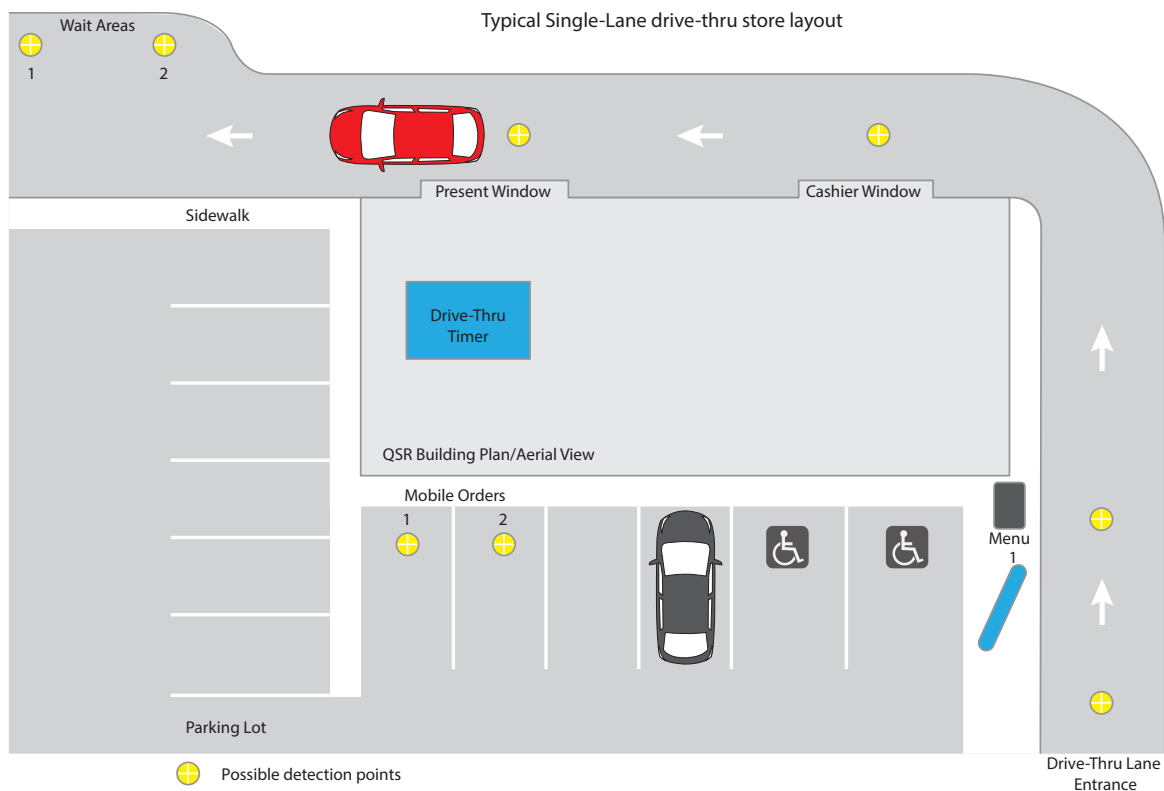

Fig. 1.4
- Mobile Order/Wait Areas: vehicle detection is off to the side of a lane, or in a reserved parking spot designated by the restaurant/store. Fig. 1.4 shows two Wait Areas and two Mobile Order spots.
Figures 1.4, 1.5, 1.6 and 1.7 illustrate possible examples of typical drive-thru layouts. Detection points (indicated by the circular yellow markers) can be installed at various strategic locations. You can label each detection point on your Dashboard. Commonly used examples are: Arrival, Greet, Menu, Order, Cashier, Pay, Present, Service, Mobile Order, Wait Area.